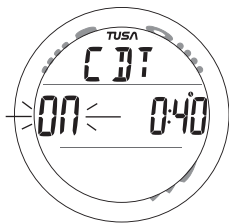

Fig. 113 - FREE DIVE ALT 1
**Free Dive ALT 1 (CDT)**, information includes (Fig. 113) -